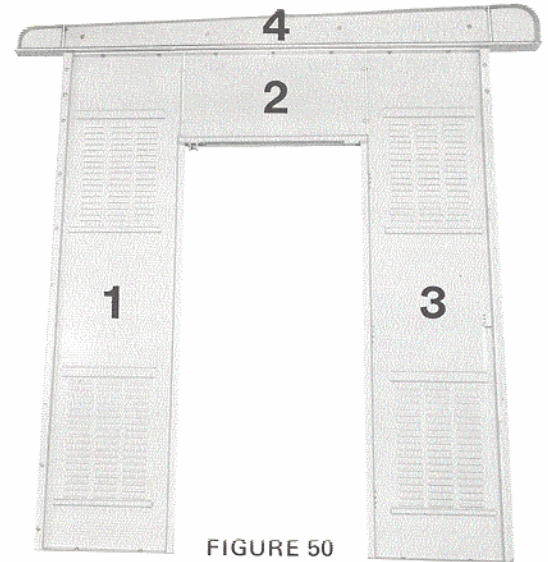

FIGURE 50
*See Figure 50 for panel reference.
4. Subassemble the (4) panels forming each end section. Use 3/8" X 1" hex-head bolts with flat washer on each side. Fasten with lock washer and nut. Caulk seams between panels with caulking provided. See Figure 50.